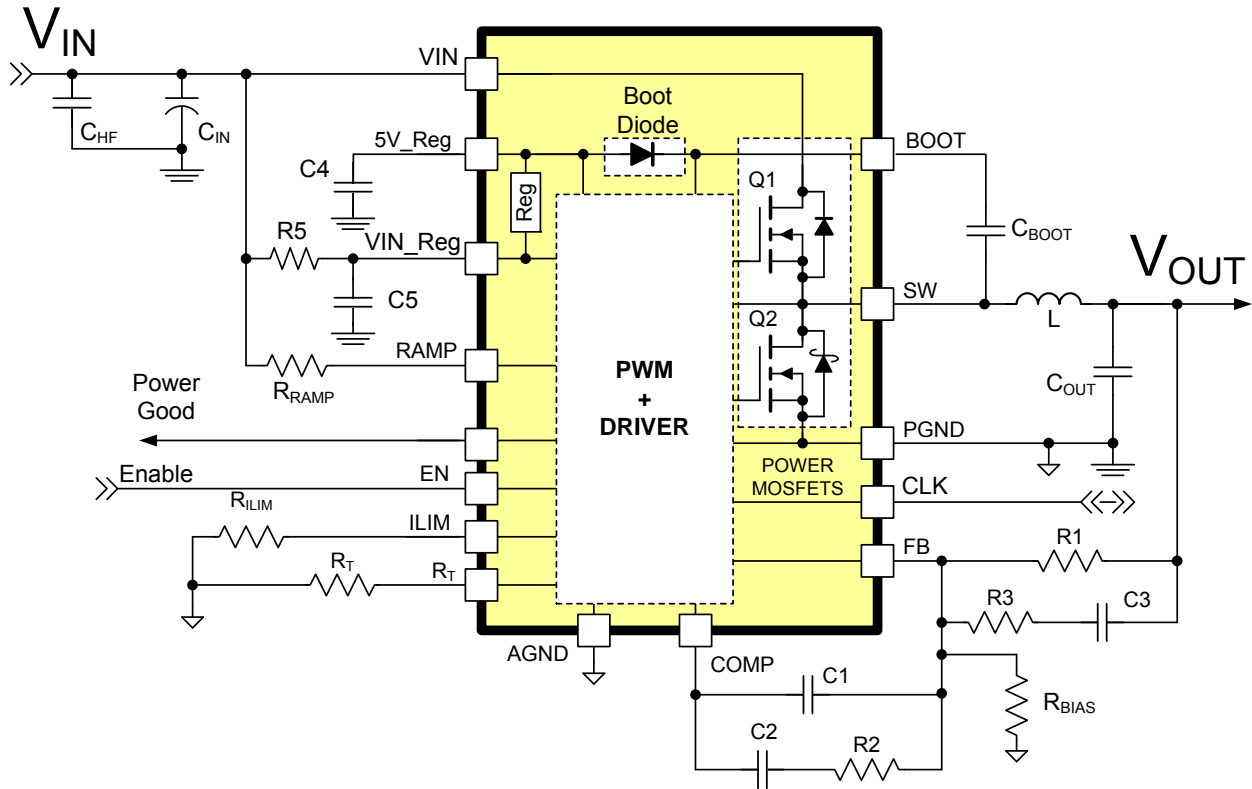

Figure 1. Typical Application, Master,  $V_{IN}=6.5\text{ V to }24\text{ V}$
Recommended operating conditions, using the circuit in Figure 1, with  $V_{IN}$ ,  $V_{IN\_Reg}=12\text{ V}$ , unless otherwise noted.
**Electrical Characteristics** (Continued)Recommended operating conditions using the circuit in Figure 1 with  $V_{IN}$ ,  $V_{IN\_Reg}=12$  V, unless otherwise noted.